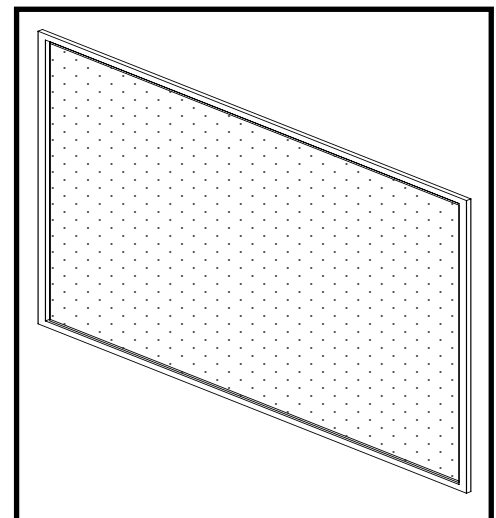

Figure 63: Safety barrier screen.
6. Attach the magnetic safety barrier screen (Figure 63) to the outer-most door frame.